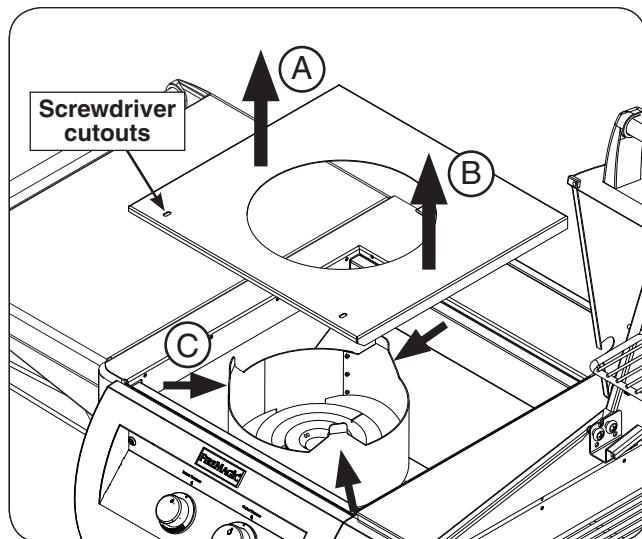

Fig. 48-1 Interior protection plate removal
2. Lift up the interior protection plate from the left side, then lift up from the right side (see Fig. 48-1, A and B).
3. While lifting the plate upward, flex the collimator inward to completely free the protection plate (see Fig. 48-1, C).